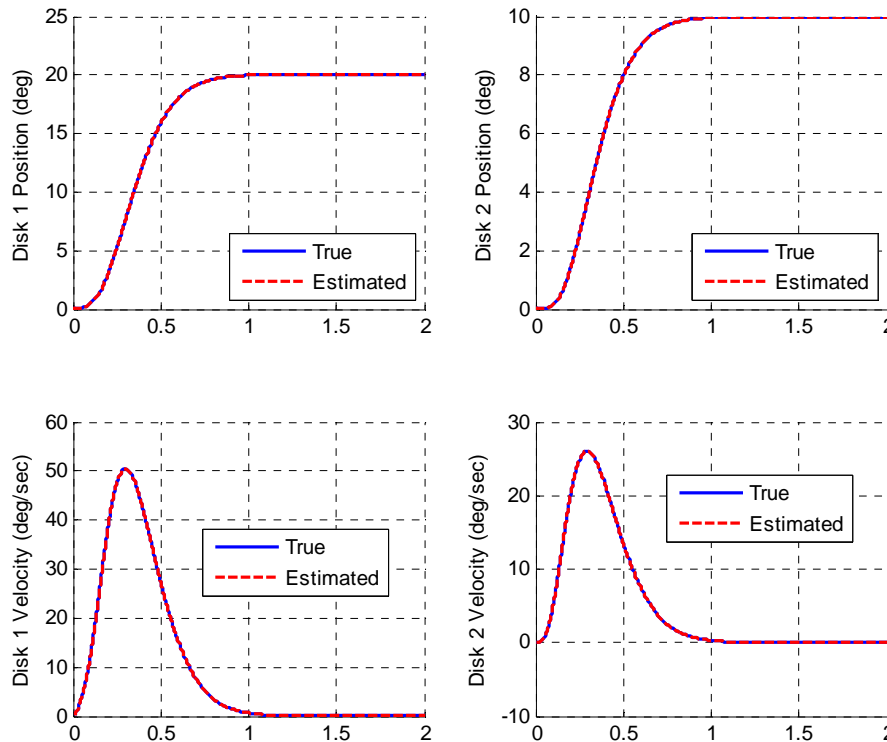

Figure 21. State feedback, full order observer, and integral control for the 2 dof system (problem 6b).
b) For an input of 10 degrees, a final time of 1 second, both the state feedback poles at $p_s = [-10, -12, -14, -16, -18]$, the observer poles at $p_o = [-10, -12, -14, -16]$, the output of the system is the position of the second disk and the input to the observer is the position of both disks, you should get a graph like that in Figure 21.